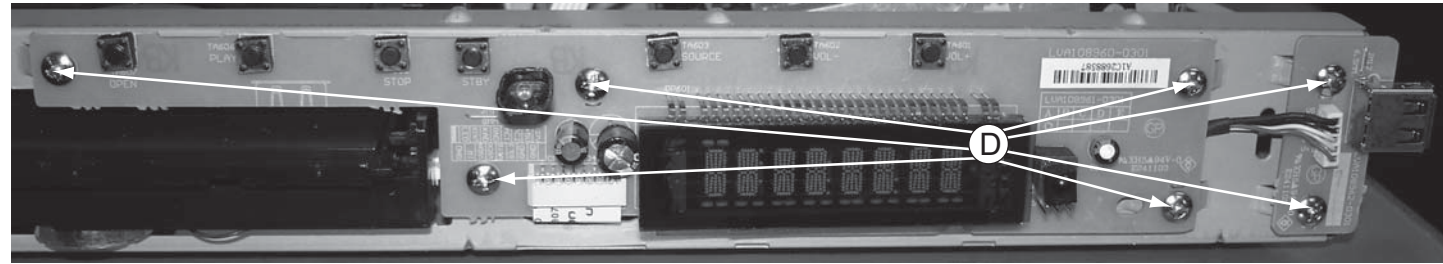

Figure 7
1) Loosen 7 screws "D" on the top of VFD+USB Board as shown in figure 7.